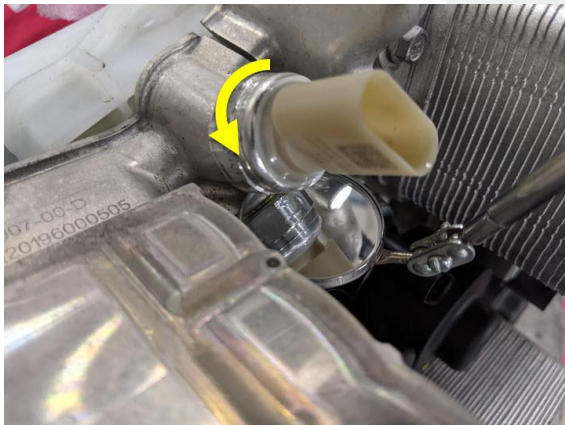

Figure 10 – Back off little
- b. Manually back off and tighten the subcool high pressure P/T sensor in an incremental manner so that the sensor O-ring properly slides into the chamfer in the Supermanifold (Figures 10 and 11).
- b. Manually back off and tighten the high pressure P/T sensor in an incremental manner so that the sensor O-ring properly slides into the chamfer in the Supermanifold (Figures 10 and 11).
- b. Manually back off and tighten the low pressure P/T sensor in an incremental manner so that the sensor O-ring properly slides into the chamfer in the Supermanifold (Figures 10 and 11).